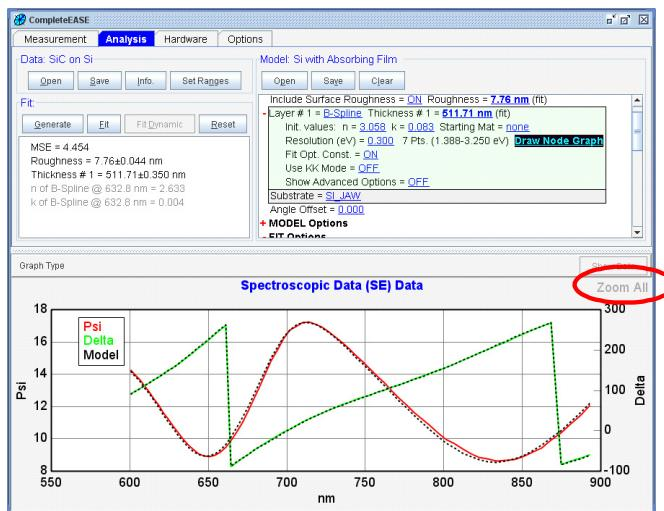

Figure 4-25. Press ‘Zoom All’ to select the entire wavelength range.
- Finally, select the entire wavelength range. This is accomplished by dragging the mouse over both graph boundaries or pressing ‘Zoom All’ at the top-right of the graph pane (Figure 4-25).